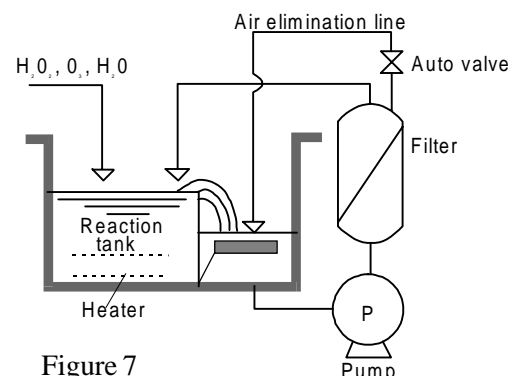

Figure 7
1. Regardless of the occurrence of air locking, continuous automatic air elimination is executed in the entire system. For example, the air elimination process is activated every 2 minutes after the start-up of the pump by opening the auto valve for 10 seconds. (Figure 7)